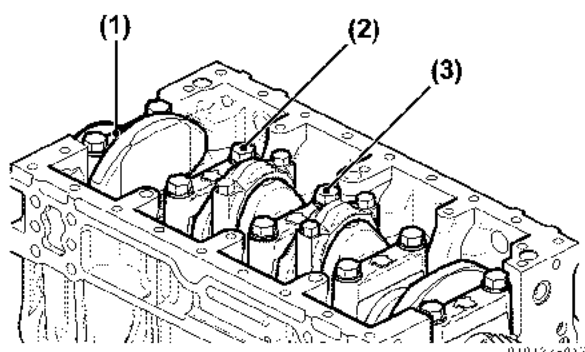

Figure 5-131
6. Coat the flange and the thread of the main bearing bolts with engine oil, put them on the crankshaft journal and tighten the main bearing bolts to the specified torque (Figure 5-131).